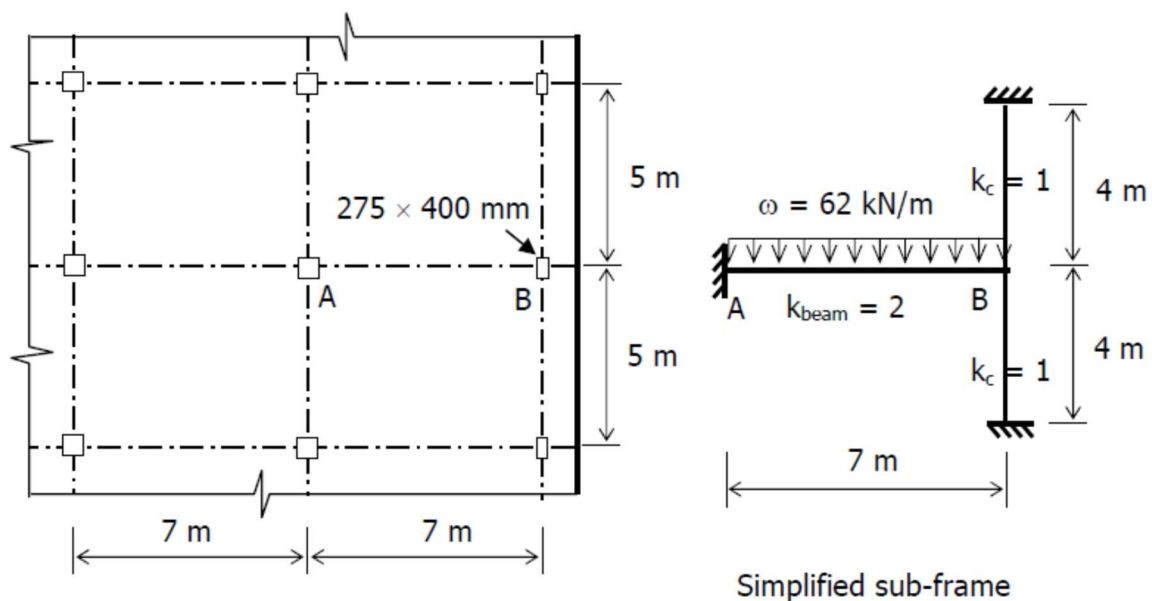

Figure Q2
Figure Q2 shows part of a concrete floor supported by columns. The building is braced in two orthogonal directions. The clear storey height is 4 m and the effective length factor is 0.85. The interior column at A carries an ultimate axial load of 3200 kN from the beams which are symmetrically arranged. The exterior column at B carries an ultimate axial load of 1700 kN and a moment M , transmitted from the beam spanning between AB. Use $f_{cu} = 35 \text{ N/mm}^2$, $f_y = 460 \text{ N/mm}^2$. Assume a 60 mm cover to the centroid of longitudinal reinforcement.
- Determine the design moment in column B from the simplified sub-frame in Figure Q2. The beam stiffness is 2 times of the column members. The ultimate design load on beam AB is 62 kN/m. Design the reinforcement and show the arrangement of bars and links on a sketch of the section.